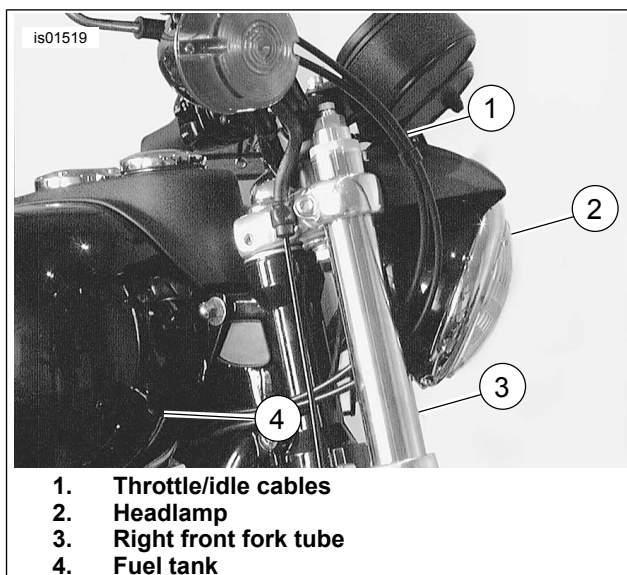
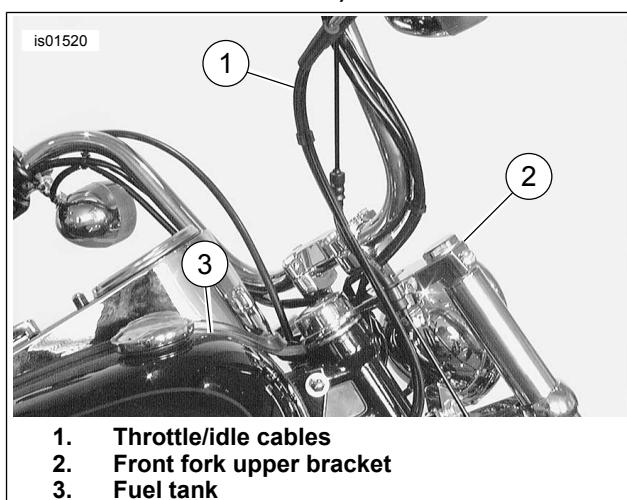

Figure 8. Cable Routing (1996 - 2005 Dyna, Except FXDWG)
Figure 9. Cable Routing (1996 - 2005 FXDWG, 2006 and Later Dyna Models)
1. **1996-2005 FXD, FXDL, FXDX, FXDS Models:** See Figure 8. Route throttle and idle cables between headlamp and right front fork tube, then under right side of tank to carburetor/induction module. **1996-2005 FXDWG Models:** See Figure 9. Route throttle and idle cables behind the front fork upper bracket, then under right side of tank to carburetor/induction module. **1996-2005 FXDXT Models:** Route throttle and idle cables through wire form mounted to upper fork bracket, then under right side of tank to carburetor. **2006-Later FXDi, FXDCi, FXDBi, FXD35, FXDWGi:** See Figure 9. Route throttle and idle cables behind the front fork upper bracket, then under the right side of tank to the induction module.